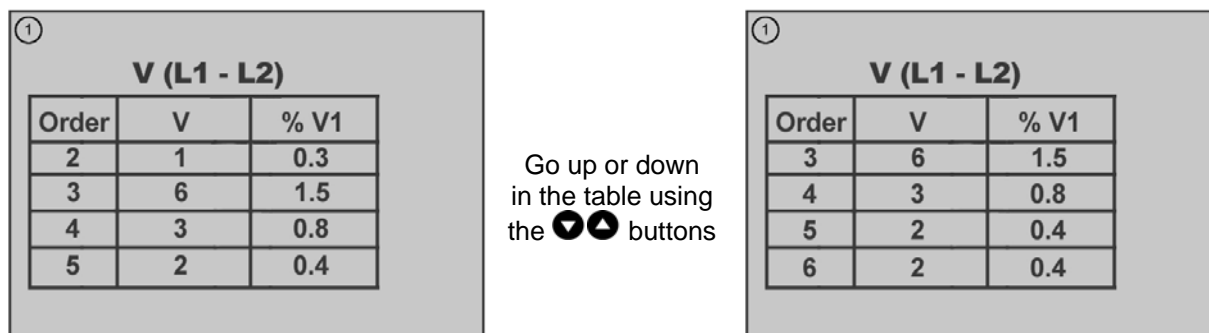

Figure 8.10. Spectrum of the network voltage in table format displayed by the PQF-Manager
- The network voltage spectrum for all phases in table format (Figure 8.10.)
- The line current spectrum for all phases in table format. The table layout is similar to the one of the voltages (Figure 8.10.)
- The filter current spectrum for all phases in table format. The table layout is similar to the one of the voltages (Figure 8.10.) but only absolute current values are shown.